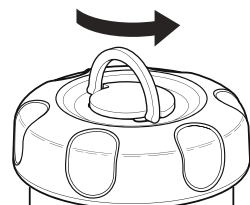
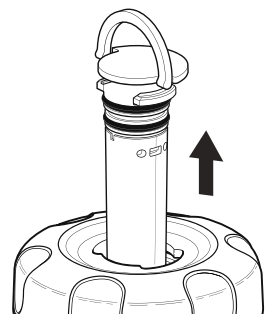

Figure 5.4 – Unlocking Enhancement Tank Cap
Figure 5.5 – Removing Enhancement Tank Cartridge
4. Raise cap handle and rotate cap 90 degrees counterclockwise to unlock (see Figure 5.4). Remove the cap (if no mineral enhancement cartridge is attached) or lift straight up to remove the old mineral enhancement cartridge (see Figure 5.5). Discard old tank cap or enhancement cartridge with cap.